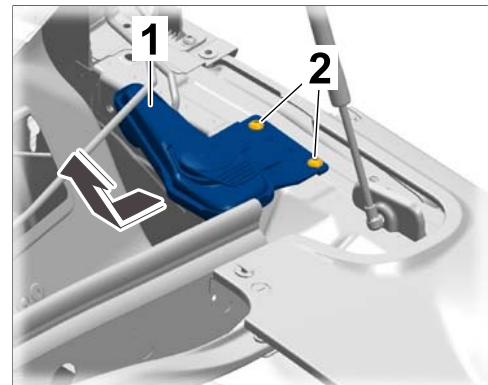

Figure 4
- 1.5.1 Remove the screws ⇒ *Figure 4 -2-*.
- 1.5.2 Pull the filler neck ⇒ *Figure 4 -1-* out of the washer-fluid reservoir and remove it.